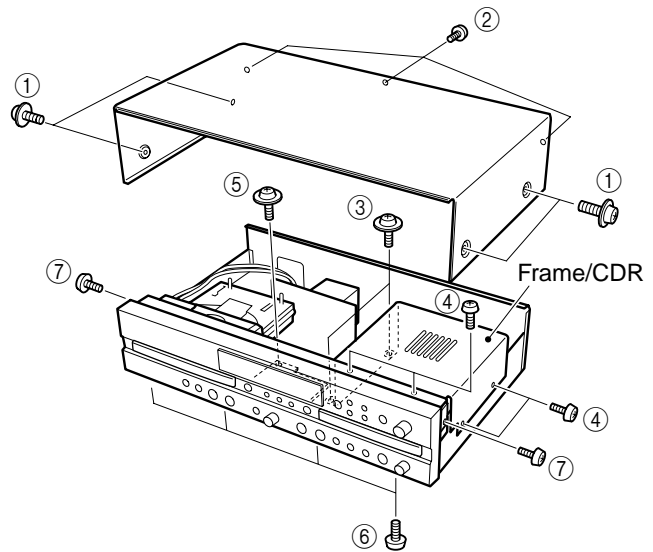

Fig. 1
- a. Remove 4 screws (1) and 3 screws (2) in Fig. 1.
- a. Remove 2 screws (3) and 4 screws (4) in Fig. 1, and then remove the Frame/CDR.
- c. Remove a screw (5) in Fig. 1 fixing the OPE PCB (5).
- d. Remove 4 screws (6) and 2 screws (7) in Fig. 1.
- e. Release 2 hooks at the right and left of the Front Panel in Fig. 1, and then remove the Front Panel forward.